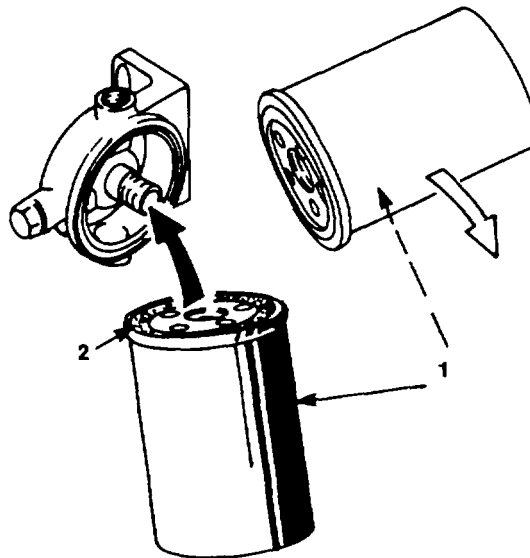

Figure 3-25. Fuel Filter Cartridge
- b Screw off fuel filter cartridge (1, figure 3-25) using strap wrench, if necessary.